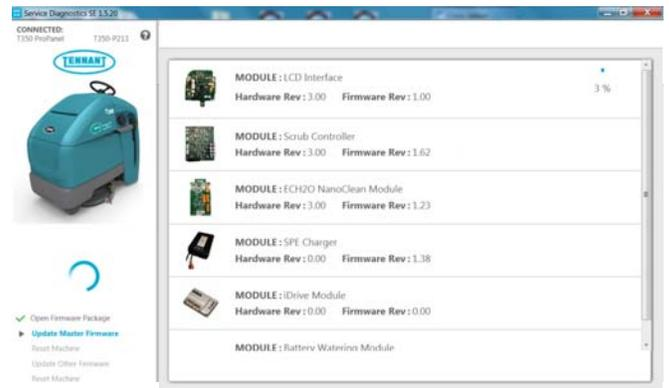

Fig. 8
8. During the programming process the following screen will appear (Figure 8). The programming process may prompt for key cycles. Turn off key, wait a few seconds and turn key back on to continue.